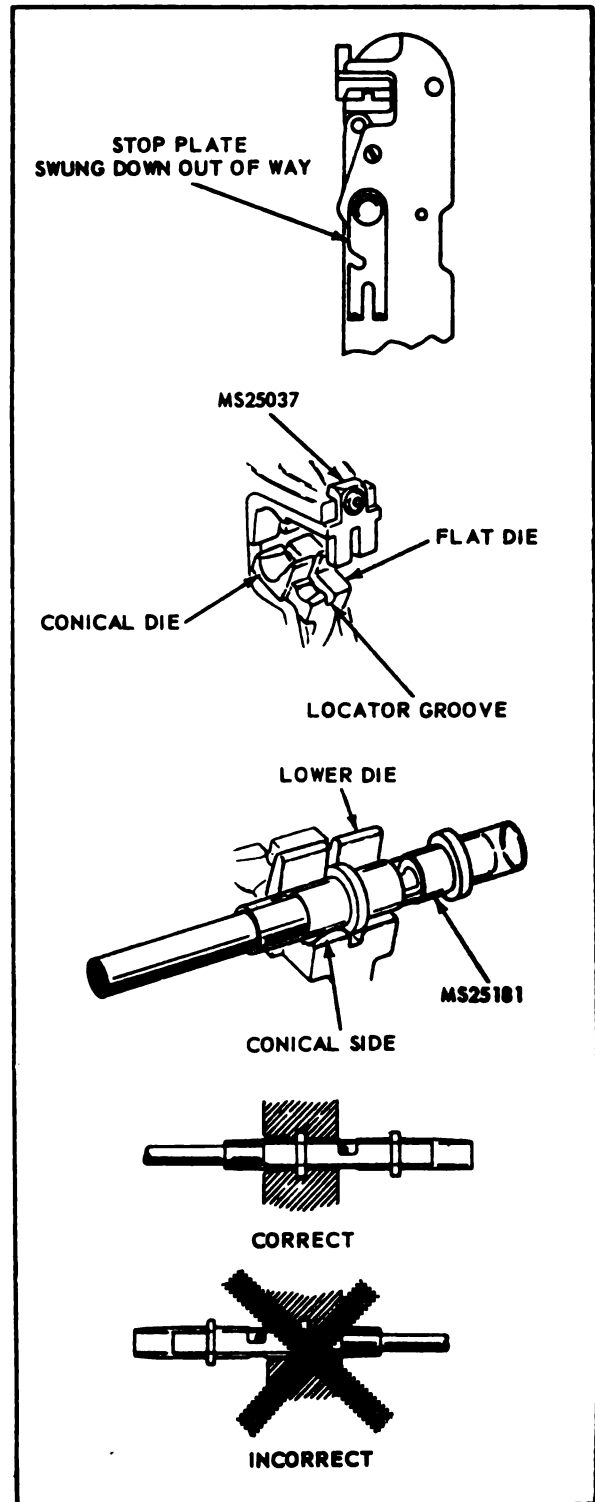

Figure 5-17. Locating Splice in Crimping Tool
- Swing the stop plate used for installing small insulated terminal lugs out of the way. (See figure 5-17)